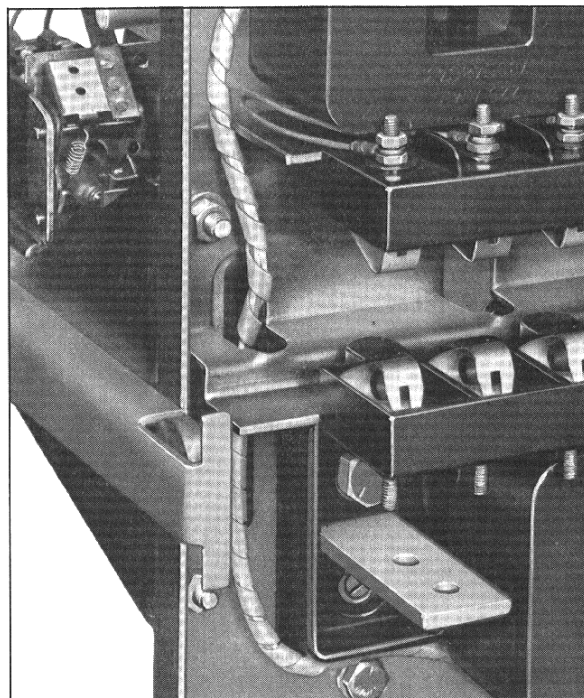

Fig. 14 *Harness Threaded Through Upper Slot DB-15*
6. Thread the sensor end of the harness through the lower slot in the right side of the breaker frame, viewing breaker from front, Fig. 14.